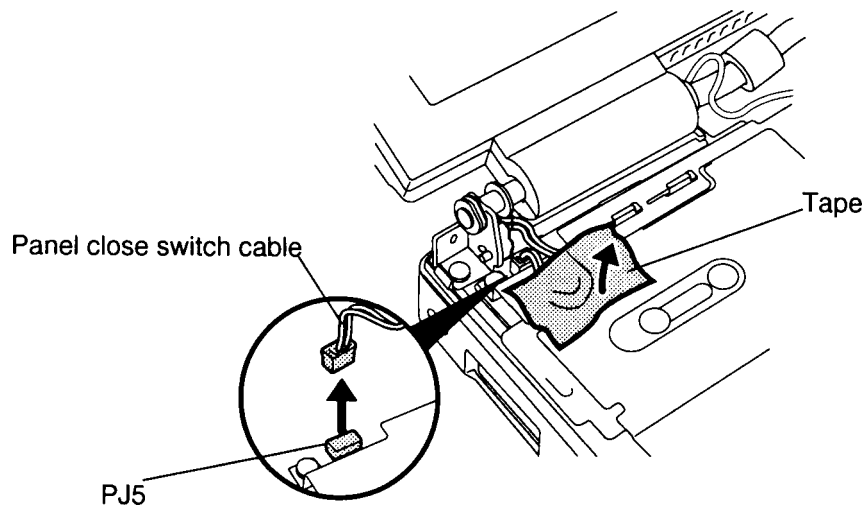

Figure 4-21 Removing the panel close switch cable
To remove the T4850CT's display assembly, follow the steps below and refer to Figures 4-21 through 4-24.
3. Remove the **tape** securing the **panel close switch cable**, then disconnect the cable from **PJ5** on the upper system board (Figure 4-21).
6. Connect the **panel close switch cable** to **PJ5** on the upper system board, then secure it with **tape** (Figure 4-21).